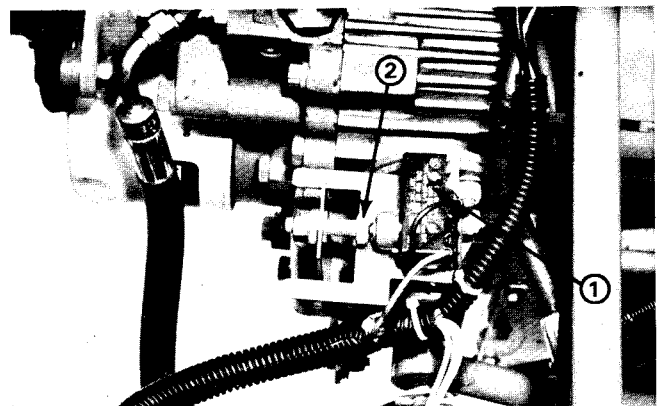

Figure 29
3. Remove the two wires that are connected to the traction switch (right side of transmission) (Fig. 29).
4. Have a helper push the traction pedal down into either the FORWARD or REVERSE position; this will take the switch adjusting screw tension off of the switch. Remove the switch from the pump plate (Fig. 29).